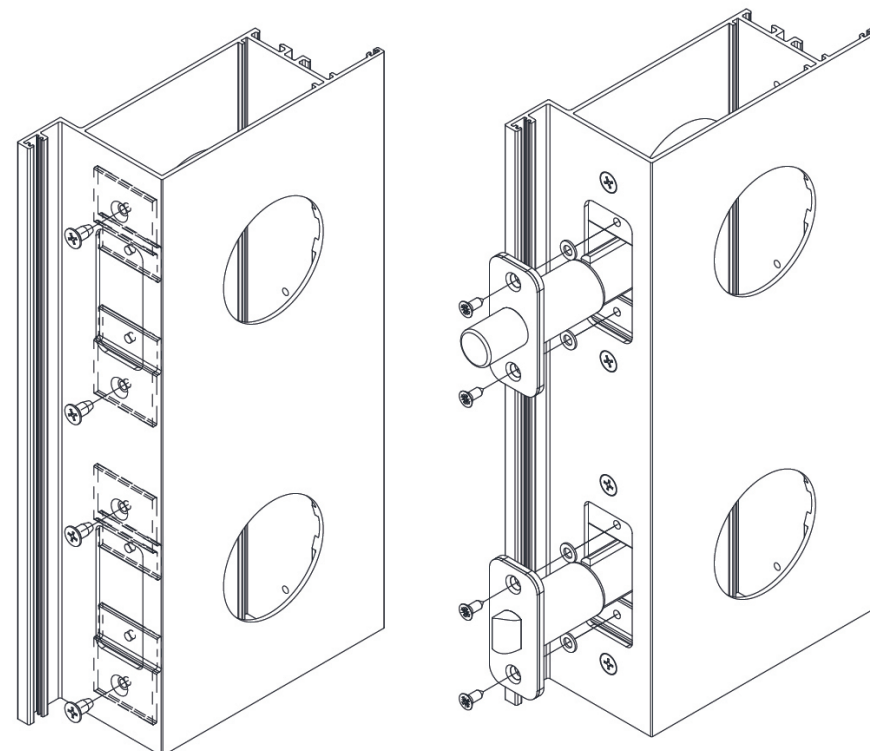

Fig. 13
- F. When the door is with standard preparation, the dead bolt and latch with lever handle should be installed. A 1/4" standard washer is provided with the lock. This washer will sit, between the backing plate of the locks in the edge of the door, and the locks and will serve to equalize the shield and the door's edge face. **Fig. 13**